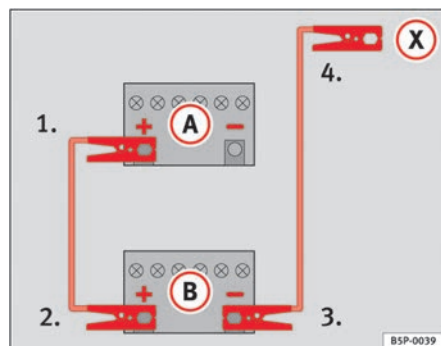

Fig. 180 How to connect the jump leads
In ⇒ fig. 180, the flat battery is **A** and the charged battery **B**.
1. Connect one end of the red jump lead to the positive ⇒ fig. 180 **+** terminal of the vehicle with the flat battery ⇒ ⚠.